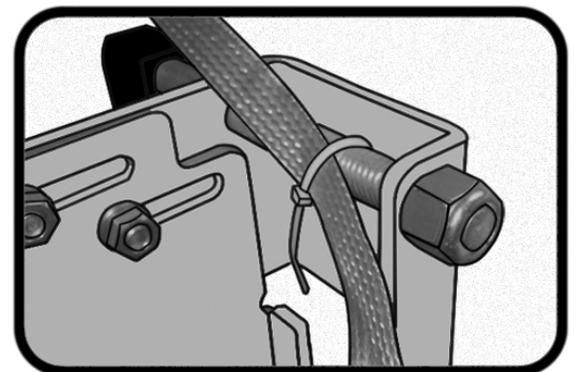

Fig. 11
**Step 10:** In order to keep the slack Bonding Wire out of the way of the mechanism, we've included some Cable Ties. We recommend using them to secure the wire to the system in positions that will restrict its movement and keep it from the active components of the cover system. *(Fig. 11)*